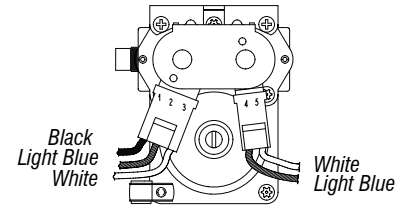

Figure 10 - Measuring gas valve resistance.
3. Use an ohmmeter to determine if a gas valve coil has malfunctioned. Remove harness plugs. Measure resistance across the terminals (see figure 10). Readings should match those shown in the following chart; if not, replace coils.